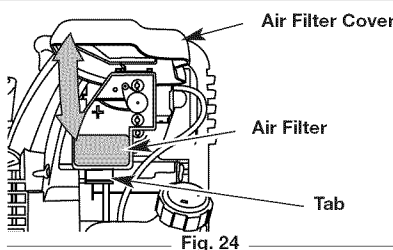

Fig. 24
1. Open the air filter cover. Push the tab on the under side of the cover inward. Then pull the air filter cover out and up. (Fig. 24).
2. Remove the air filter (Fig. 24).
6. Replace the filter (Fig. 24).
8. Swing the cover down until the tab on the air filter backplate snaps into place in the slot on the air filter cover (Fig. 24).